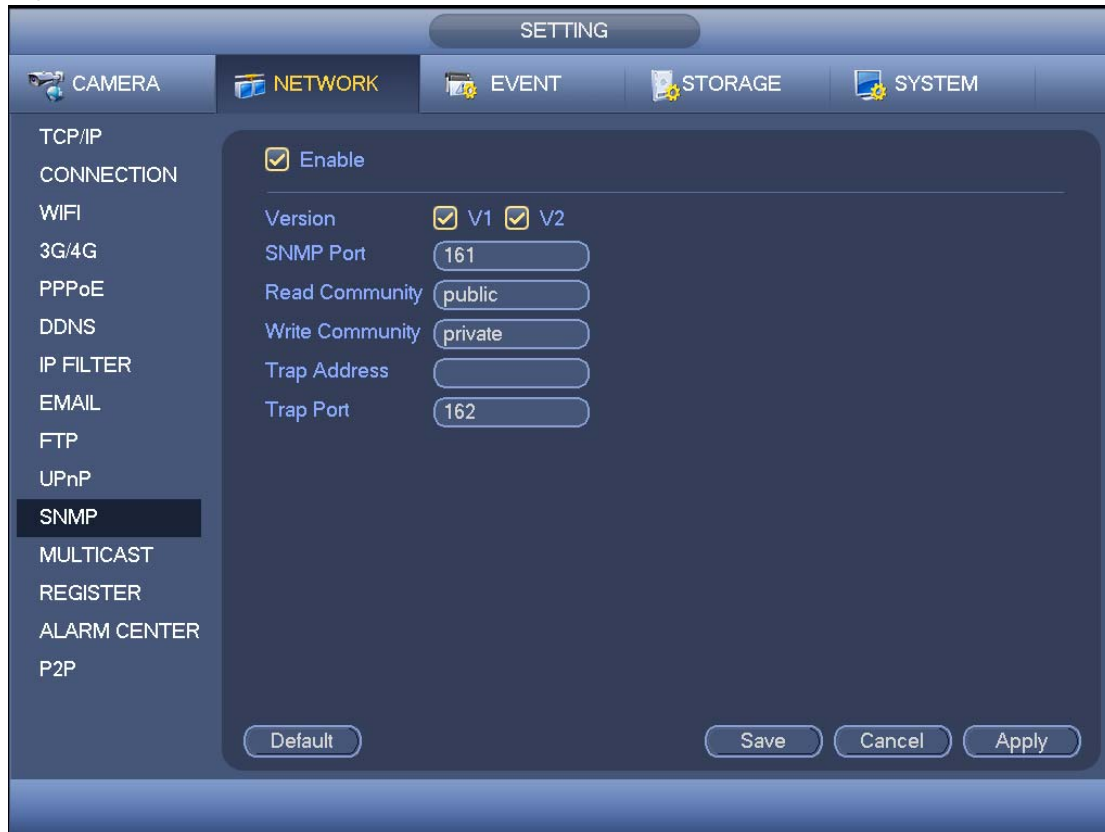

Figure 4-113
SNMP is an abbreviation of Simple Network Management Protocol. It provides the basic network management frame of the network management system. The SNMP widely used in many environments. It is used in many network device, software and system. From main menu->Setting->Network->SNMP, you can set in the following interface. See Figure 4-113.
- In Figure 4-113, check the box to enable the SNMP function. Input the IP address of the PC than is running the software in the Trap address. You can use default setup for the rest items.